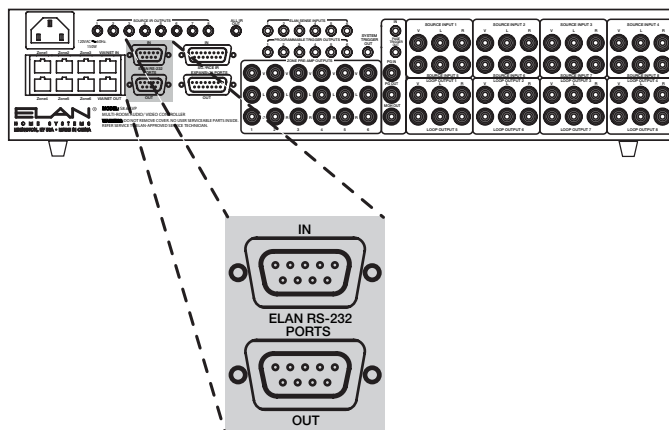

Figure 1-9. ELAN RS-232 IN/OUT Ports
ELAN RS-232 IN/OUT Ports (2) are DB9 serial connections that can be used for two-way feedback and control of the S8.6 Multi-Room Integrated Controller (see **Figure 1-9**).